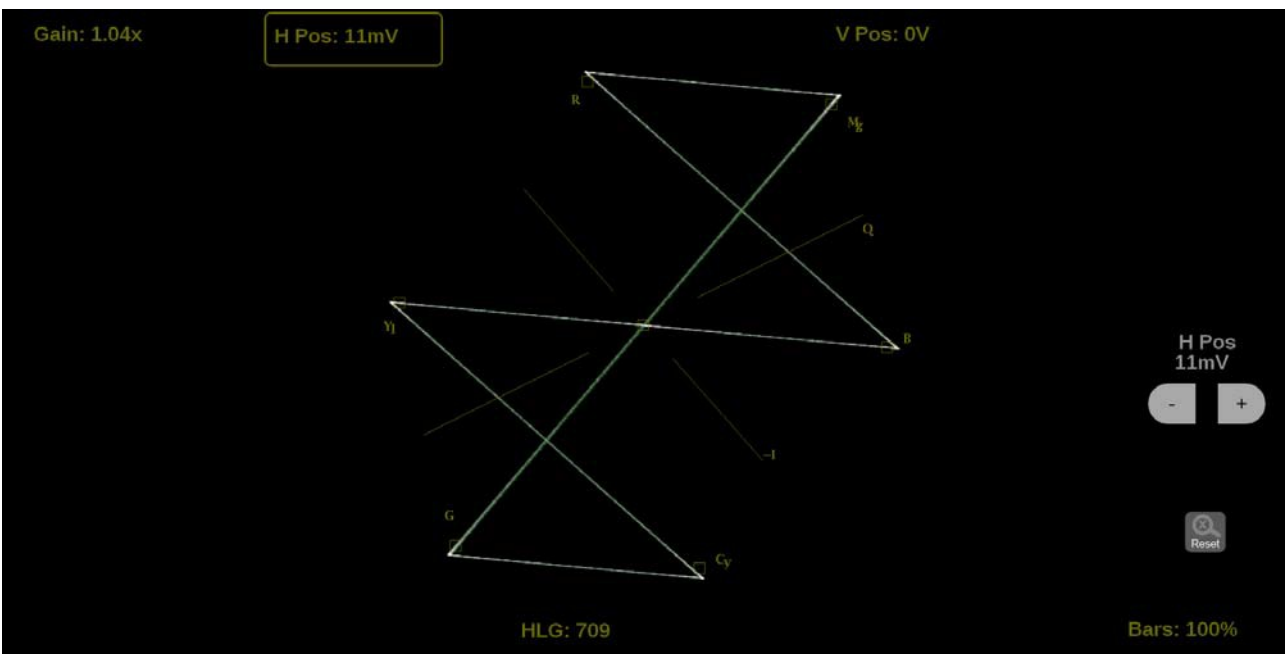

Figure 104: Vector on-screen tools – horizontal position
1. Select the **H Pos** button to allow adjustment of the horizontal trace. (See Figure 104.)